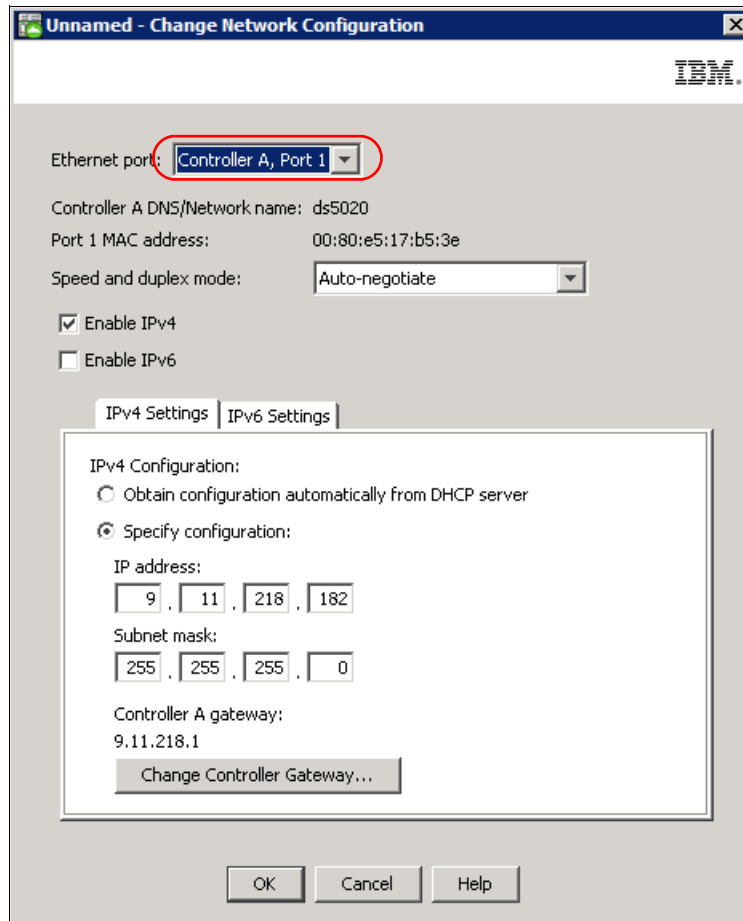
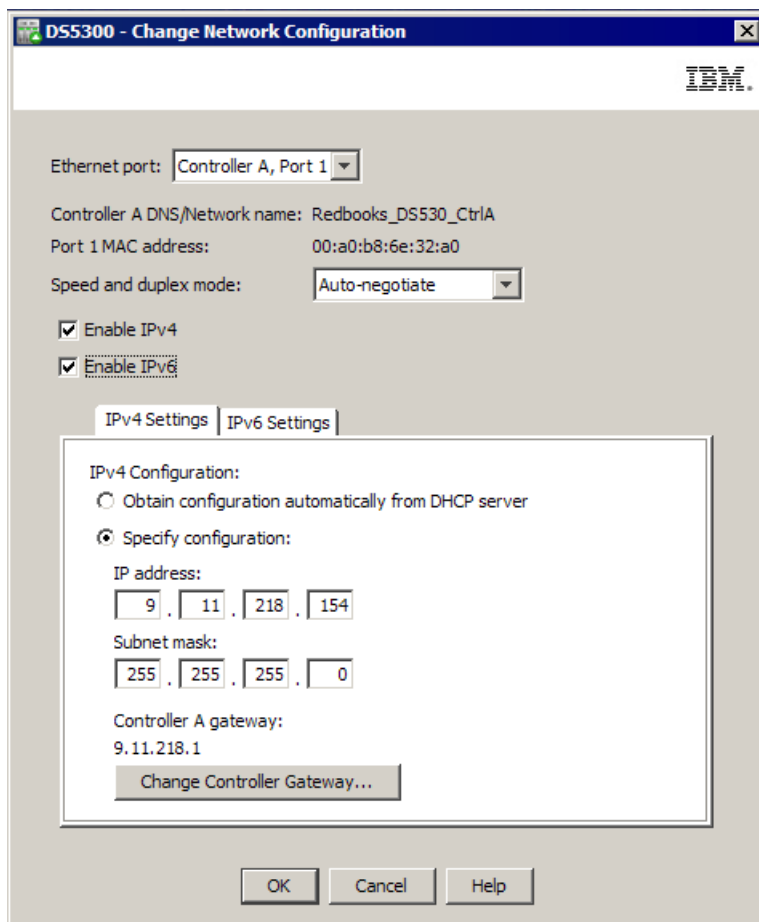

Figure 3-25 DS5000 Controller Network Configuration change IPv4 only
Figure 3-26 DS5000 Controller Network Configuration with IPv4 and IPv6 enabled
- g. Select either IPv4 or/and IPv6 addressing from the Change Network Configuration screen as shown in Figure 3-25 and Figure 3-26 below.
- h. For IPv4 input the network information on the IPv4 selection panel under the IPv4 tab and click **OK**, as shown in Figure 3-25. You can configure both controllers from this window by selecting the Ethernet port. Make sure to click **OK** after configuring both of them.
- I. If you are selecting both IPv4 and/or IPv6 then you will want to select both the IPv4 and the IPv6 check buttons to enable both as shown in Figure 3-26.